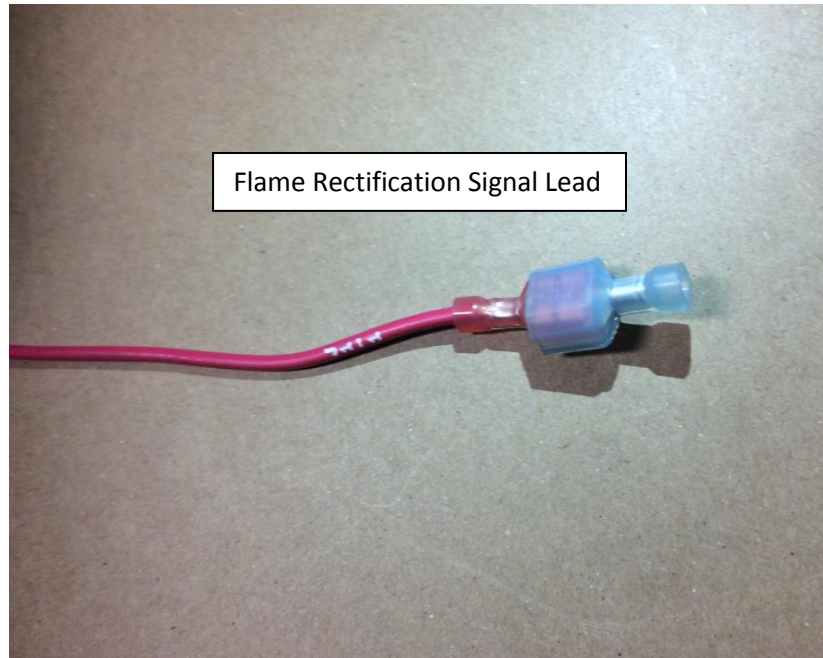

Figure 12
24. Flame Rectification Signal Lead wire shown in Figure 12 will not be used. Use cap supplied in kit to cover end of wire connection.